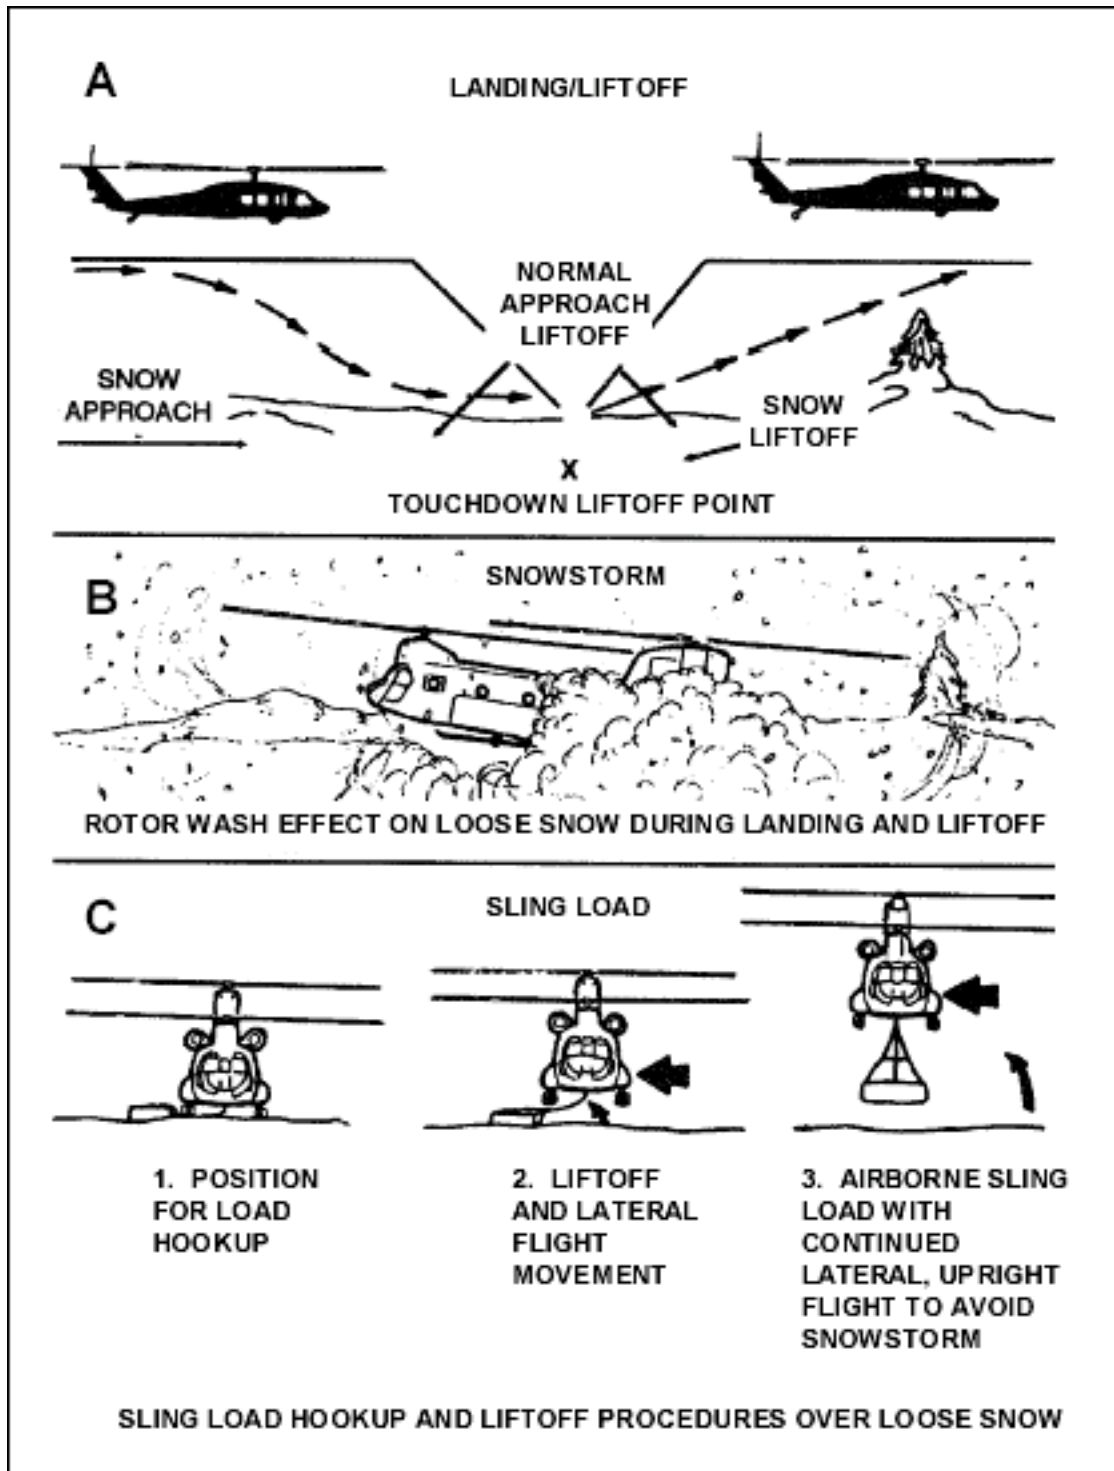

Figure 4-18. Lessening the effects of loose snow on the ground.
b. **Navigation.** In snow-covered areas with flat terrain, pilots may need marked and manned RPs. When aircraft fly over loose snow, the air movement lifts the snow and circulates it into a snow cloud. This often produces a zero-visibility condition known as "whiteout," through which the pilot must take off or land blind (Figure 4-18). Whiteout conditions place extra demands on the landing site party.
d. **Signalman.** The pathfinder leader positions any extra personnel to act as signalmen for aircraft approaching other touchdown points. While aircraft approach and land, he makes sure that signalmen remain in safe areas. Other signalmen should also control the loading of personnel on the aircraft, as instructed by the crew chief or the crew. The technique for landing on snow with a sling load resembles other types of approach, but the pilot hovers at a higher altitude because of the load (A, Figure 4-18). He has a hard time judging the height of the sling load (the height above the ground) as it nears the snow surface. He relies on a signalman to keep him informed. To avoid building up a snow cloud, the pilot puts the load on the ground as fast as he can (B, Figure 4-18).
Doing this above snow produces a snow cloud (B, Figure 4-18). The pilot must expect this and plan for it. In fact, when operating over snow-covered terrain, the pilot can use the most common technique—hovering the helicopter over the load while the ground crew attaches the sling to the hook—or not.
- (1) The pilot can land to the left of the load, but close enough for hookup personnel to attach the sling to it.
- (2) When ready for liftoff, the pilot initiates a slow, vertical ascent with enough lateral movement to position the aircraft over the load (C, Figure 4-18). He continues a vertical ascent until the load has cleared the ground and he has conducted a hover-power check. When the load clears the ground, the pilot begins accelerating, and continues to climb.